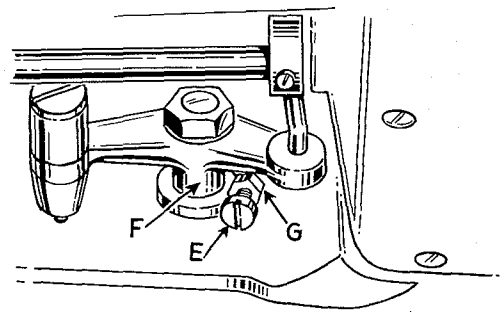

Fig. 9
This is accomplished by turning the machine over on its side, loosening lock nut (G, Fig. 9) and relocating the stop screw (E) on the lifter lever bell crank (F). By turning the stop screw counterclockwise, the presser bar connection is brought closer to the hand lifter. Turn the stop screw to secure desired  $\frac{1}{16}$  inch space. Tighten lock nut (G) to lock screw in position.